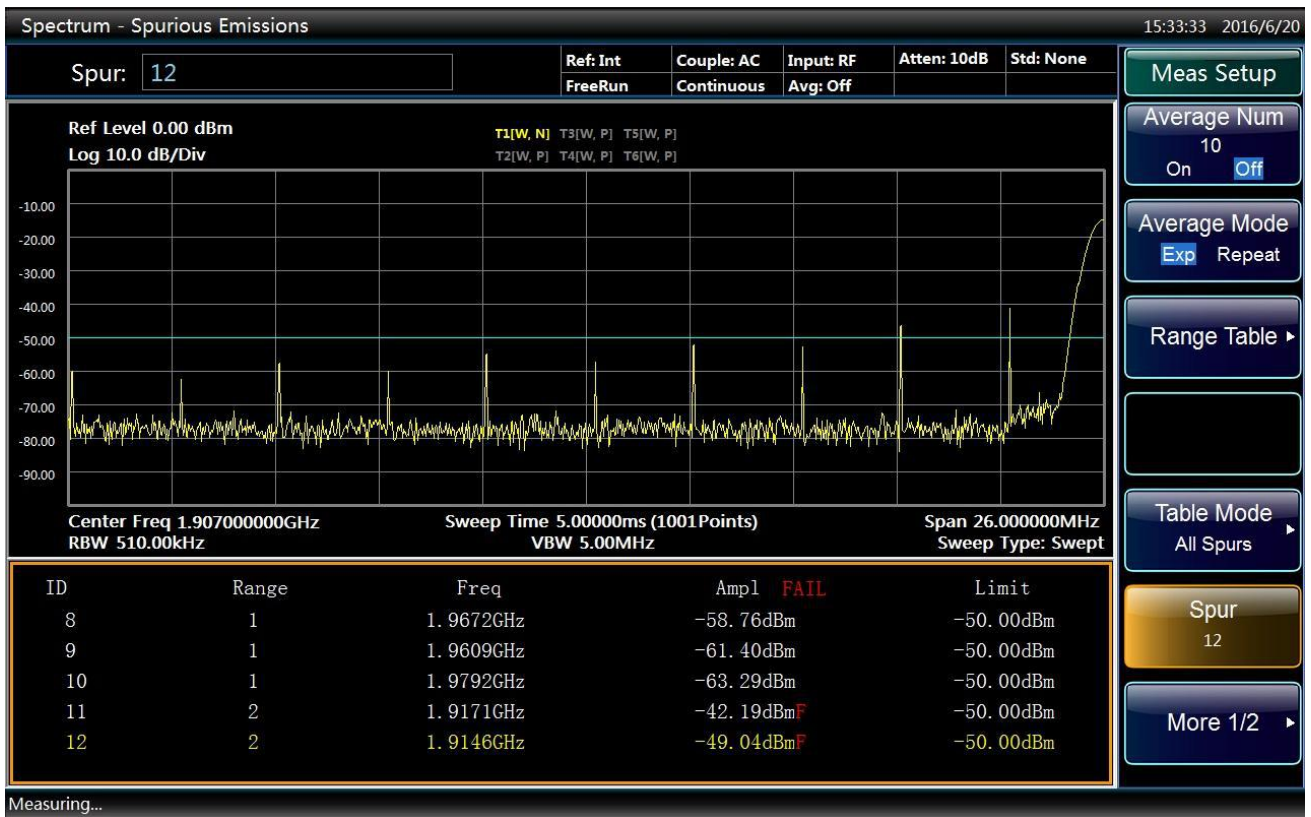

Fig. 4.81 Results of Spurious Emission Measurement
- Results of spurious emission measurement are shown in Fig. 4.81.